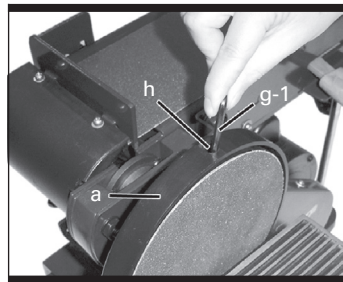

Fig 3
2) Insert hex wrench (g-1), down through slot (h) in the back of disc guard (a) and tighten set screw holding disc plate on drive shaft. (Fig 3)